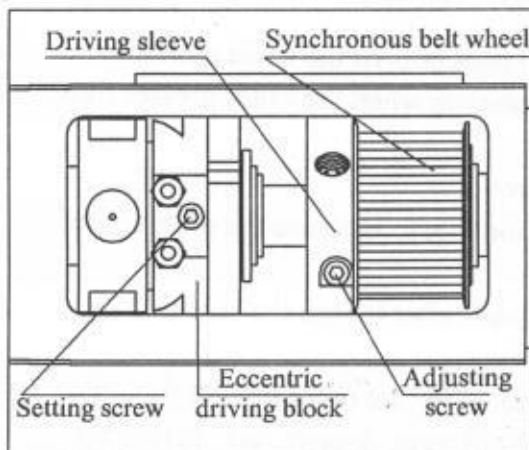

Fig 11
- Loosen the two screws on the eccentric driving block.(Fig 11)
- If the speed of the shuttle is not correct, please adjust the two adjusting screws of the driving sleeve that is fixed at the end of the main shaft(Fig 11). As thus, the speed of the shuttle can be adjusted.